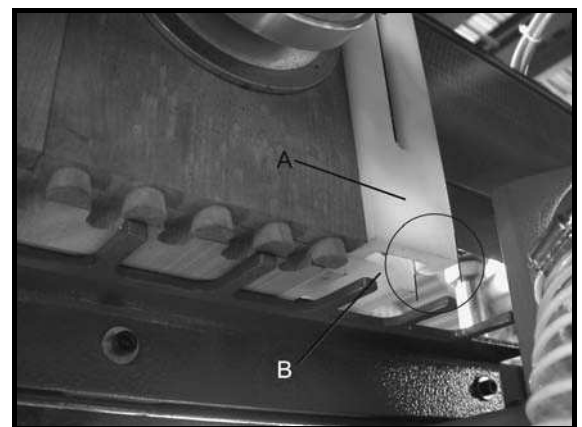

Figure 18
9. Line up the vertical fence with the horizontal fence, then offset the vertical fence by exactly half the pitch of the template bar. See Figure 18.
The polyethylene buffer pads, shown in Figure 18, have slots through which they are secured to the fences by screws. These buffer pads can be re-positioned if needed.
To adjust a buffer pad, loosen the two hex cap screws (shown in Figure 18) with a 13mm wrench. Slide the buffer pad as necessary. Retighten both hex cap screws when finished.